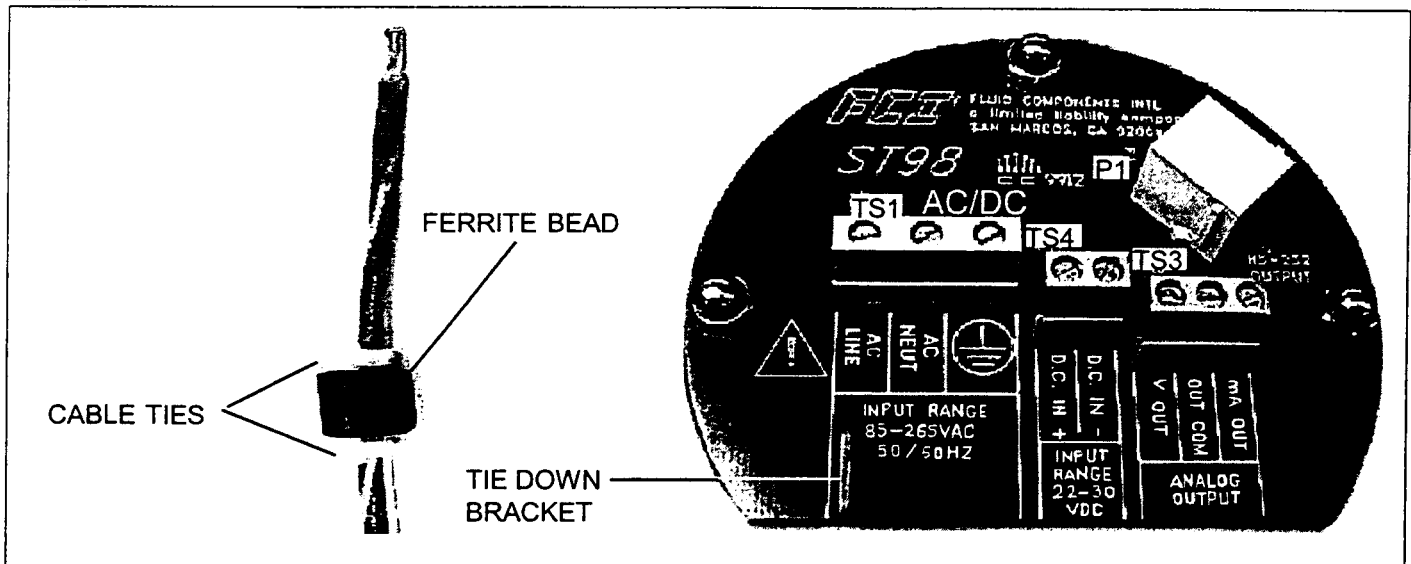
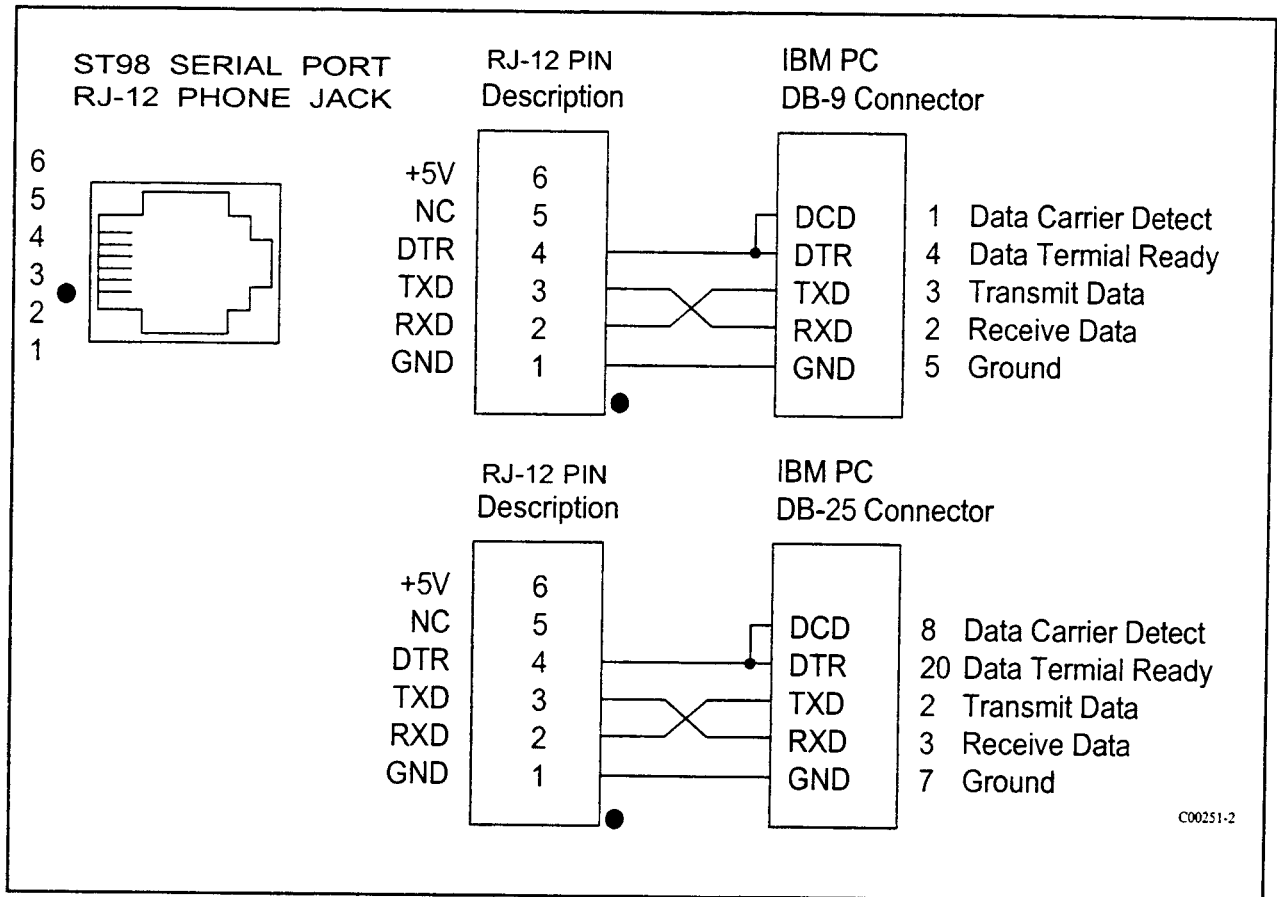

Figure 2-4. Customer Connection Board
Figure 2-7. Wiring Diagram, DB-9 and DB25 PC Connectors
3. Connect the milliamp and/or DC voltage output to the termination (customer connection) board as required. Refer to Figure 2-4 for connection information.
4. Connect the operating power to the customer termination board by removing the input wiring kit from the strain relief bracket (see Figure 2-4 for the bracket location). This kit contains a filter bead and three cable ties. For remote instruments only, the kit also contains 2 wire terminals for a ground wire to be placed between the flow element enclosure and the electronics enclosure.
6. Attach the filter bead over the safety ground wire as shown in Figure 2-4 using 2 cable ties to secure the bead on the wire. The last cable tie should be about 3 inches from the end of the wire.
7. Attach the power wires to Terminal Strip TS1 (for AC) or TS4 (for DC) as shown in Figure 2-4. Secure the wires going to the Terminal Strip with a cable tie, secured to the cable tie bracket on the customer connection board.
Note: Connecting the shield in any other way will decrease the accuracy of the instrument. See Figure 2-4 for the wiring diagram.
Caution: Be sure an earth ground wire is connected to the ground terminal (see Figure 2-4). On a remote configuration, connect an earth ground wire to the ground screw in the local enclosure. This is for the purpose of safety.
Caution: Be sure a grounded wire is connected to the ground terminal (see Figure 2-4) or to the enclosure ground screw. This is for the purpose of safety.
The RJ-12 (P1) connector on the customer connection board provides RS-232 communication with the user. An FC88 Communicator can be plugged in for periodical re-configuration and/or diagnostics, or personal computer can be plugged in instead of the FC88 Communicator. See Figure 2-4 for the location of P1. This connection is a RJ-12 communication (phone) jack. Figure 2-7 represents the connection between the serial port and the host device.
An FC88 is a hand held communicator that is plugged into the flow meter which controls the various functions of the ST98. Plug in the FC88 to P1 of the customer connection board. See Figure 2-4 for details.